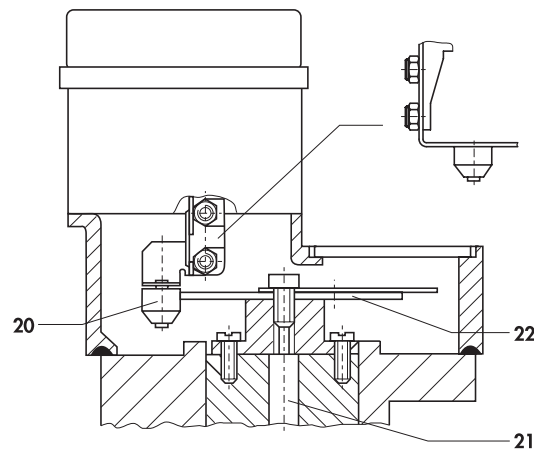

Fig. 8 · How the rotary motion is transmitted to the positioner
With linear-motion valves, the travel and therefore the valve stem position is transmitted to the follower lever (1) via the pin (1.1) and determines the force of the measuring spring (4). When the positioner is attached to rotary-motion valves (Fig. 8), a follower roll (20) is attached to the front end of the lever (1). The rotary motion of the actuator shaft (21) is converted into the linear motion necessary for the pneumatic control system. The cam disk (22) and the follower roll (20) are used for this purpose.